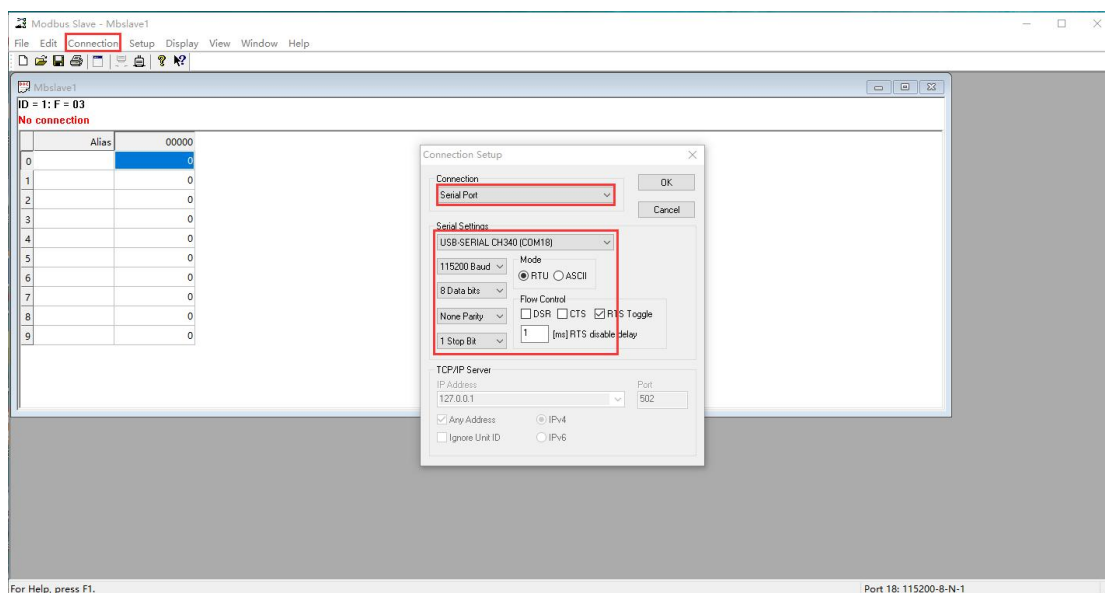

Figure 6-26 MODBUS \_ RTU parameter setting of slave software
6) Select RTU mode, and the serial port parameter setting is consistent with that of the equipment, as shown in Figure 6-26.